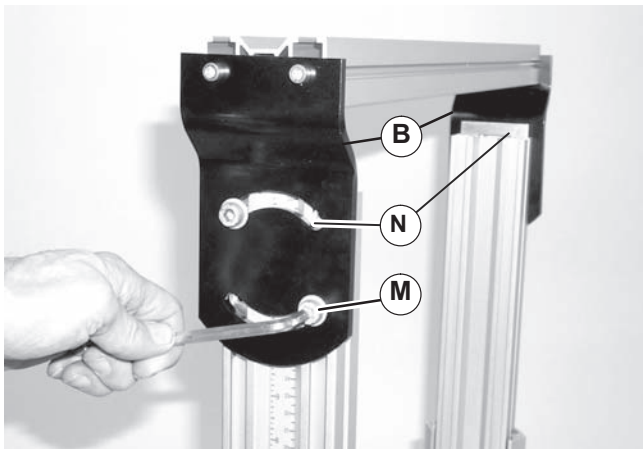

Figure 5
Failure to secure screws (Figure 5, item M) may cause conveyor sections to drop down causing severe injury.
5. Align two crossmember mounting brackets (Figure 5, item B) with two u-nuts (N). Install four M8 flange socket head screws (M) through brackets and into u-nuts. Tighten screws to 150 in-lb (17 N-m).